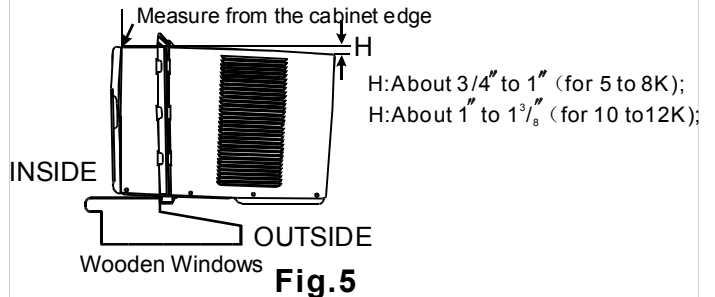

Fig. 5
- A. Keep a firm grip on the air conditioner, carefully place the unit into the window opening so the bottom of the air conditioner frame is against the window sill (Fig. 5). Carefully close the window behind the top rail of the unit.
NOTE: Check that air conditioner is tilted back about H (Fig. 5) (tilted about 3° to 4° downward to the outside). After proper installation, condensate should not drain from the overflow drain hole during normal use, correct the slope otherwise.